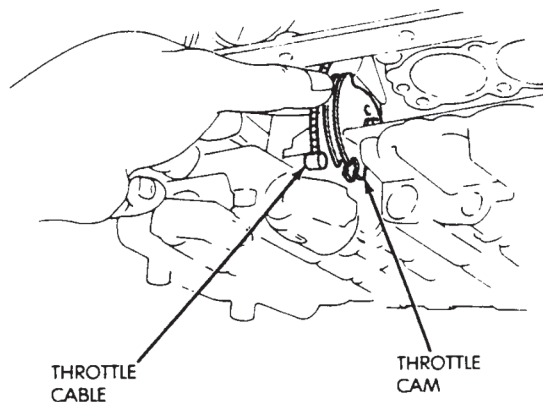

Fig. 27 Removing/Installing Throttle Cable
(4) Disengage cable from throttle valve cam (Fig. 27).
(1) Lubricate and install new seal on cable.
(2) Insert cable in transmission case.
(3) Attach cable to throttle cam (Fig. 27).